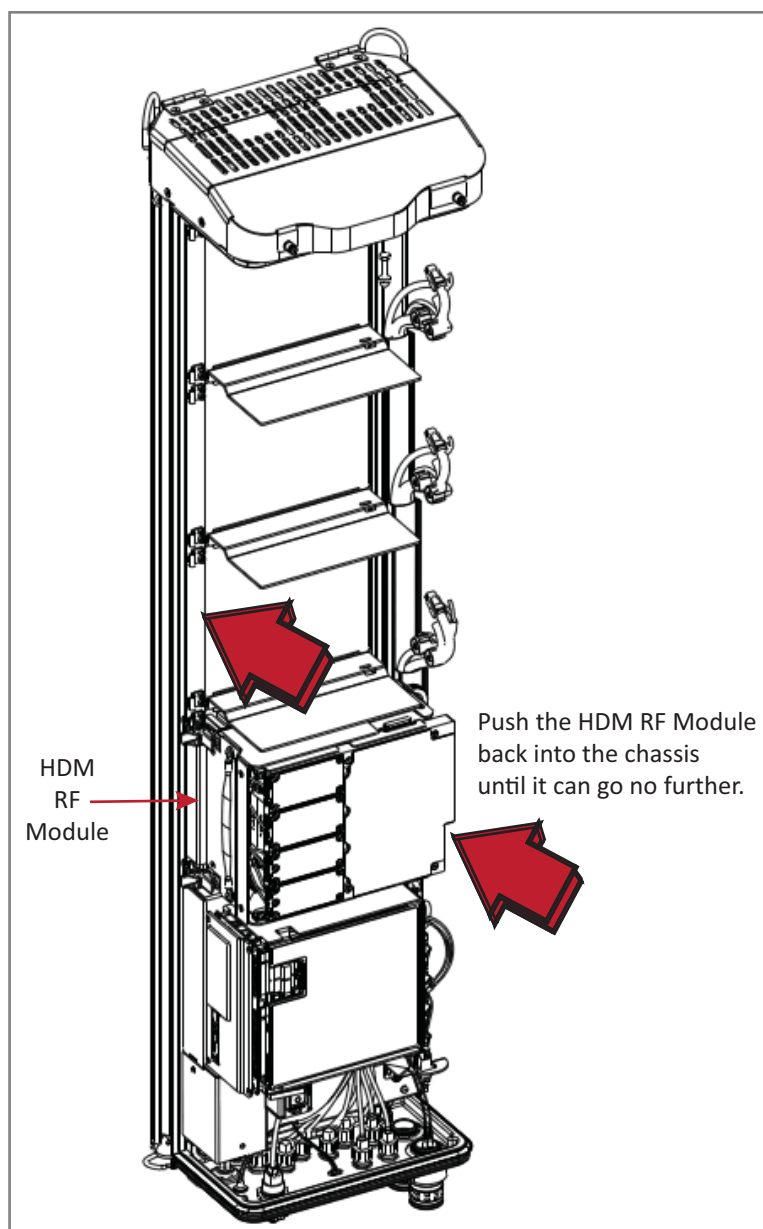

Figure 26. Seating an HDM RF Module
- For HDM RF Modules, see Figure 26 on page 92.